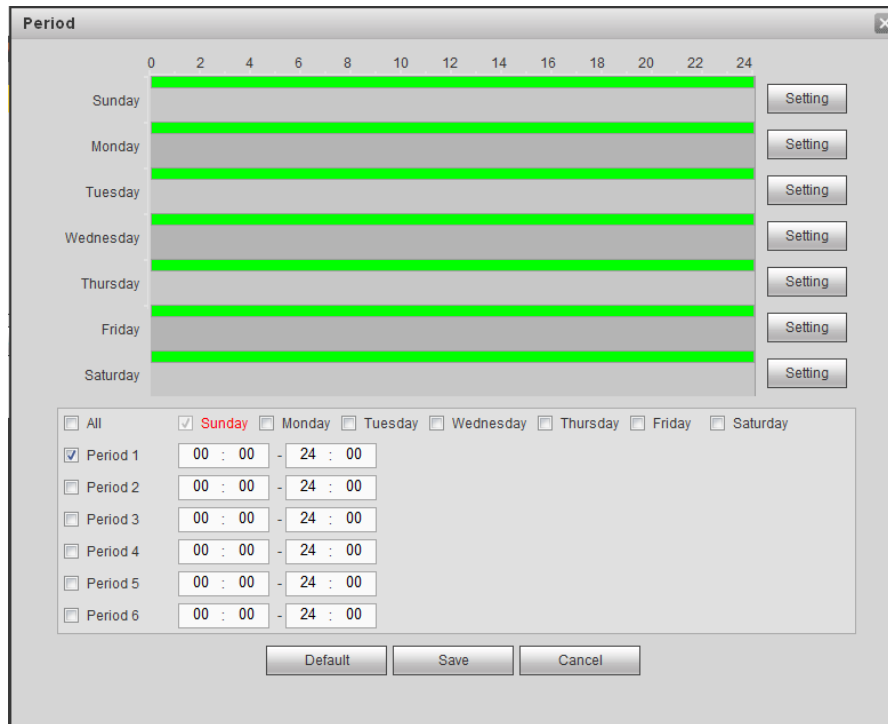

Figure 5-135
Step 3 Click the Set button after the period. It is to set valid period to use current account. See Figure 5-135.